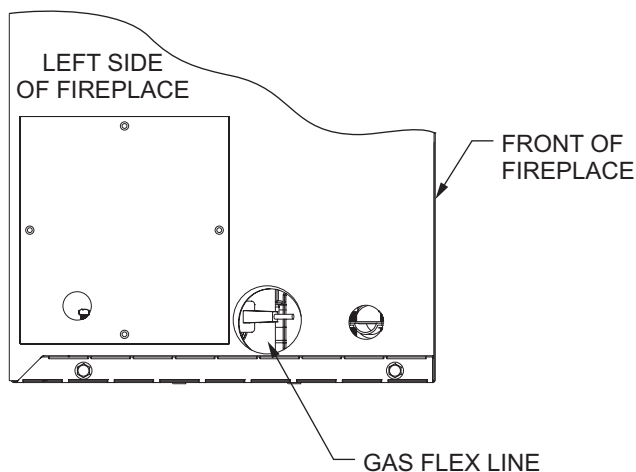

Figure 14
4. Remove the junction box cover. Run 14/2 NM-B with ground or 12/2 NM-B with ground wire through the electrical access panel into the Junction box. Secure wiring with the wire connector as required and install the two receptacles as shown in Figure 14. Attach the black wires with a wire nut, and the white wires with a wire nut. Secure the incoming ground wire and green receptacle ground wires under the green ground screw provided in the junction box. Re-install the Junction box cover.
The gas pipeline can be brought in through the right or left side of the fireplace. The fireplace has a Flexline located on the left side when facing the fireplace. See Figures 14 and 15. Consult the current National Fuel Gas Code, ANSI Z223.1 CAN/CGA-B149 (.1 or .2) installation code.